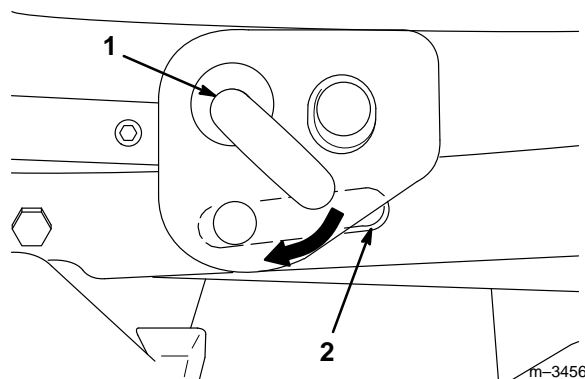

Figure 6
6. Lower the attachment lift arm fully and adjust the deck's position until you can pull out on the J-pin of the lift arm and slide it into the slot in the mounting bracket of the mower (Fig. 6).